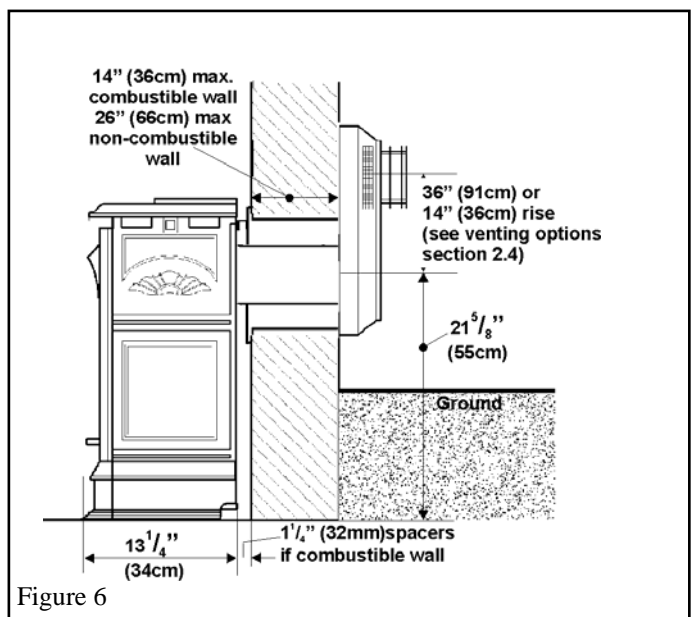

Figure 6
4.2.2. Flat on wall with snorkel termination (Fig.6)